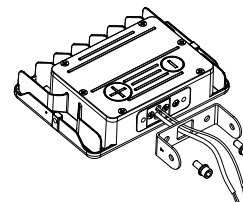

figure 2.1
- Step 2: Pass the wires through hole of bracket (Figure 2.1)